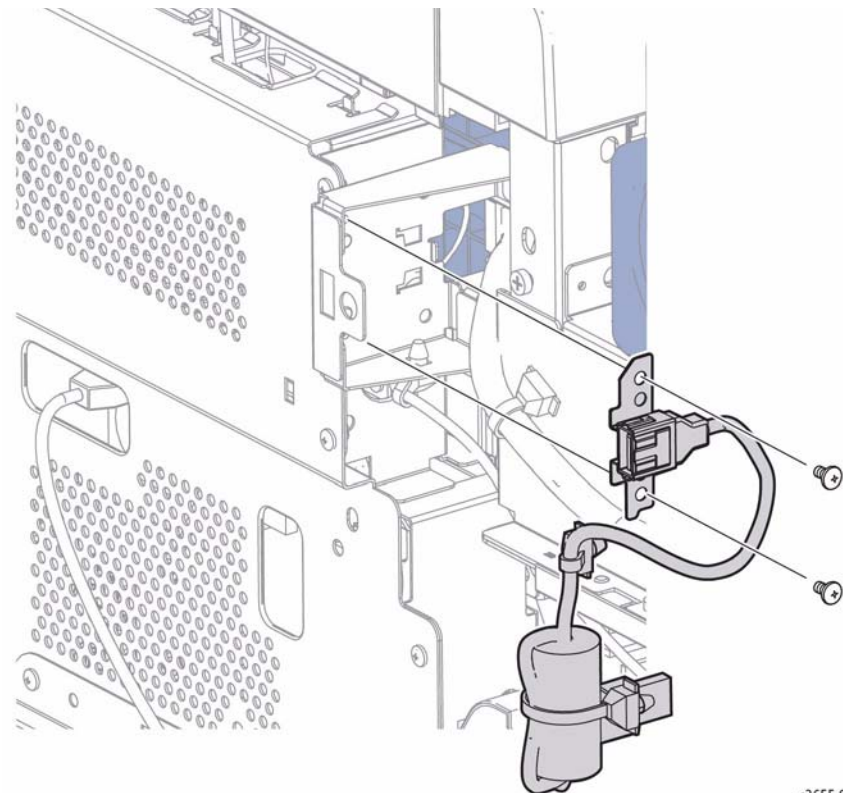

Figure 1 Remove the Side USB Assembly
7. Refer to Figure 1 to locate and remove 2 screws (silver, M3, 6mm) that secure the bracket to the chassis.